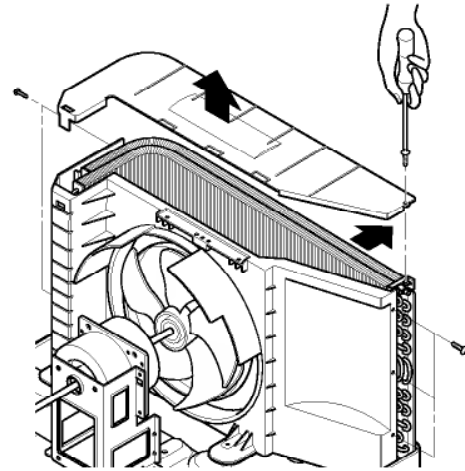

Figure 15
6. Re-install the components by referring to notes. (See Fig. 15)